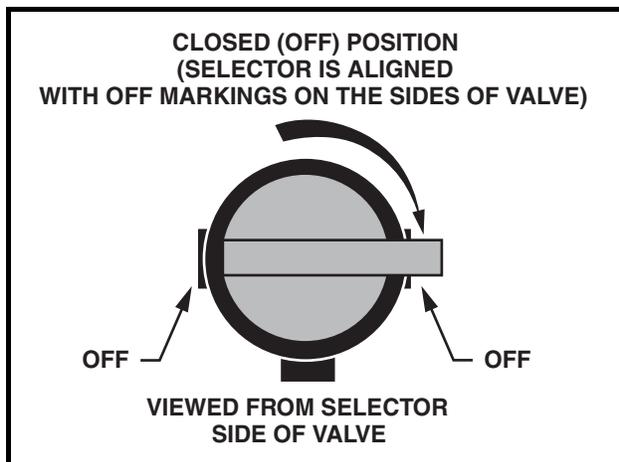

Figure 18 Fuel Shut-off Valve – Closed Position
- Gasoline vehicles only: Turn the fuel shut-off valve to the closed (OFF) position (Figure 18).
- Turn the fuel shut-off valve to the closed (OFF) position (Figure 18).
- 3.1. Place the Forward/Reverse handle in the NEUTRAL position and the neutral lockout cam in the MAINTENANCE position. Turn the fuel shut-off valve to the closed (OFF) position (**Figure 18**) and run the engine until fuel remaining in the carburetor and fuel lines is depleted and the engine stalls. Return the neutral lockout cam to the OPERATE position.
- Turn the fuel shut-off valve to the closed (OFF) position (Figure 18, Page 39).